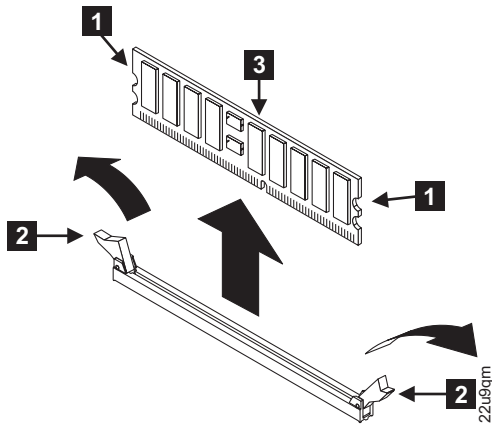

Figure 99. Removing the memory modules
4. Open the clips **2** by pressing them outward, as shown in Figure 99 on page 98. This action pulls the memory module **3** out of the connector.